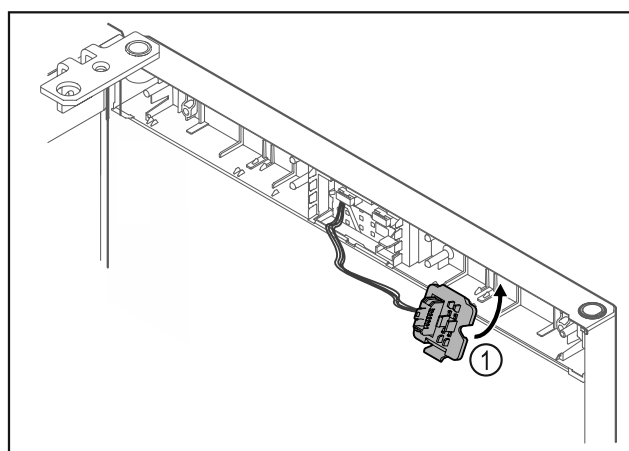

Fig. 12
- Engage the plug holder Fig. 12 (1) on the opposite side.*